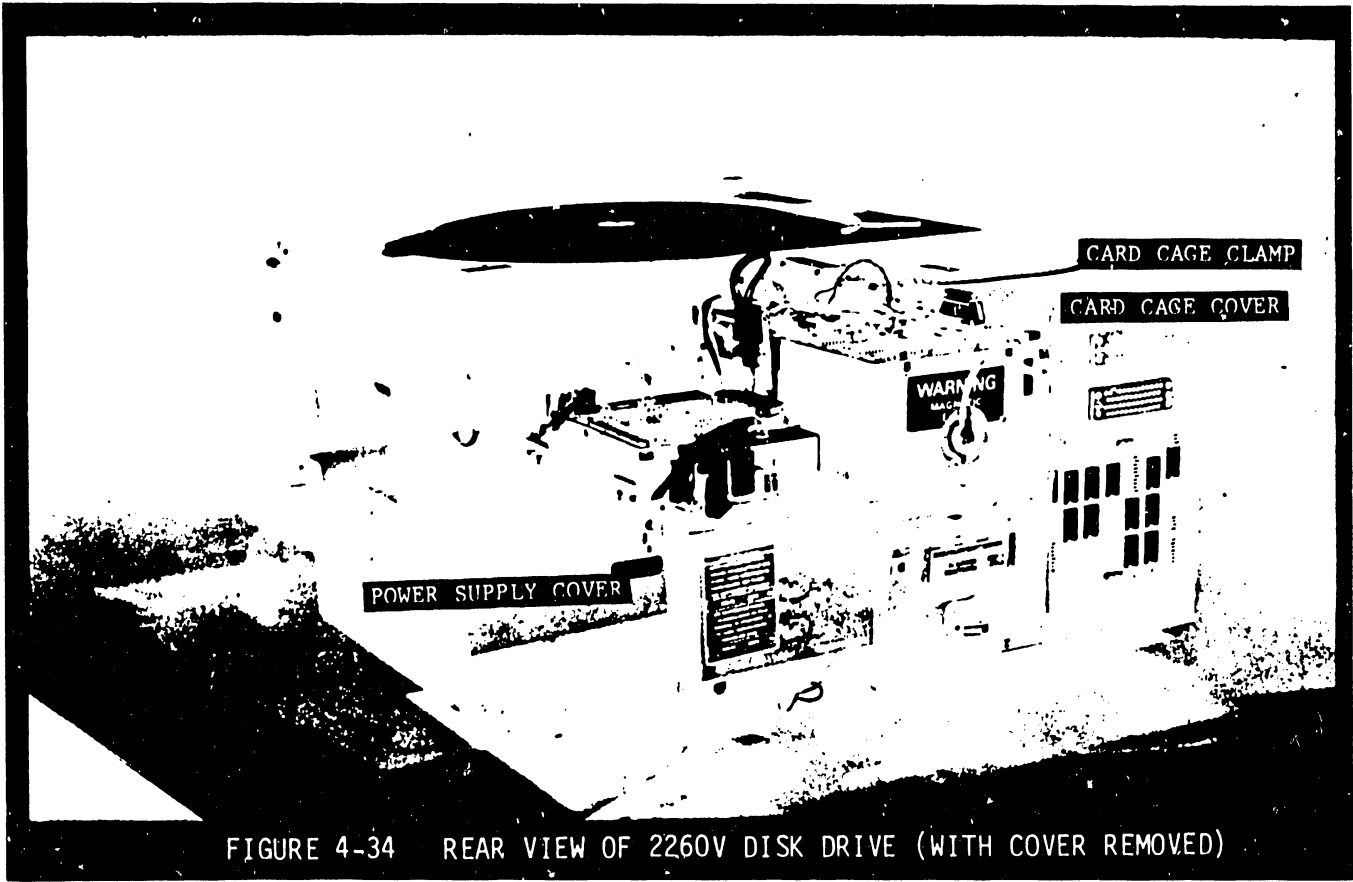

FIGURE 4-34 REAR VIEW OF 2260V DISK DRIVE (WITH COVER REMOVED)
- C. Remove the power supply assembly cover (Figure 4-34), and check the cards and connectors for proper seating.